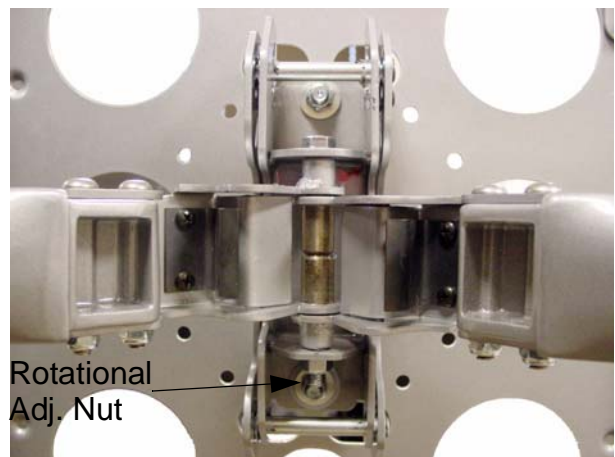

Figure 11. Rotational Adjustment
1. If necessary, loosen or tighten bottom rotational tilt tension adjustment nut (see Figure 11).